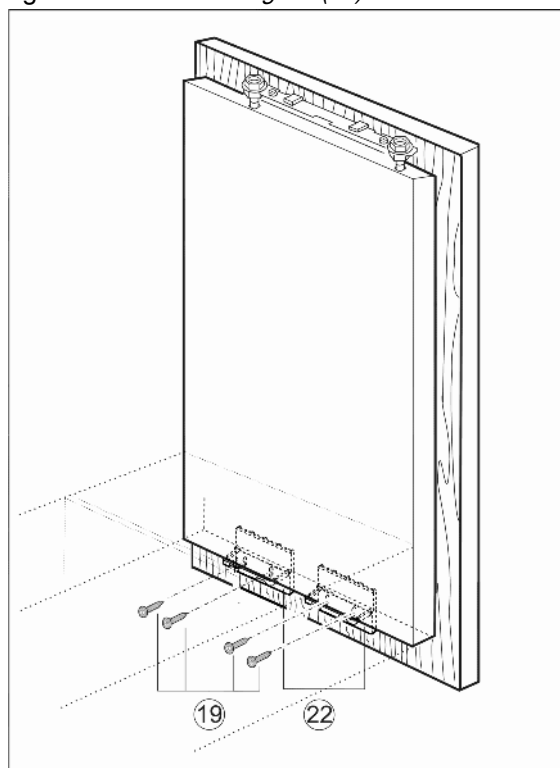

Fig. 21
- Screw the appliance door to the unit door with screws Fig. 21 (19) through the mounting brackets Fig. 21 (22).